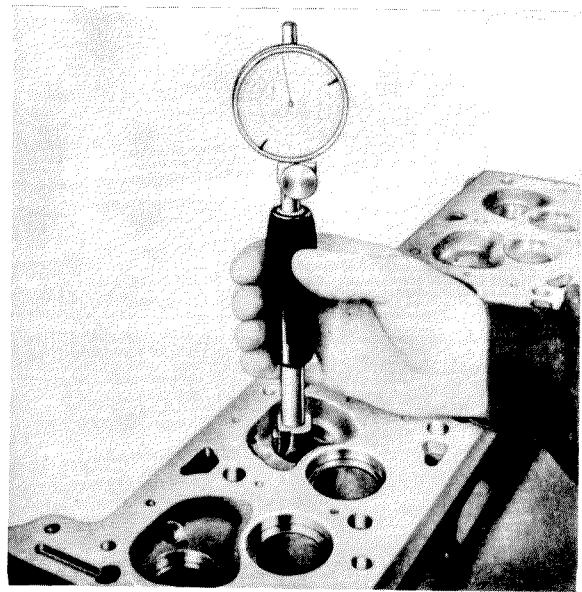

Fig. 01 — 5/11
6. Set up the holding stand (4) so that its bearing end is centrally located. Between the holding stand bearing (12) and the handle there must be a distance of at least 10 mm.
7. Now hold the feed control (11) steady and turn the handle. As soon as the stop screw (10) reaches its stop, release the feed control and give the handle one or two further turns.
8. Release the lower nut of the rapid adjustment (5) and, by turning the upper nut, once more move the cutter inward. Lock the rapid adjustment once more by tightening the lower nut.
9. Release the locking screw (3) and back out the knurled nut (1) about 5 graduations; this causes the cutter to be moved about 0.5 mm downward and thus a new cut can be made. This procedure should be repeated until the knurled nut (1) lies against the stop nose (13).
11. Clean the valve seat ring recess and measure the diameter with Internal Micrometer 000 589 10 21 (Fig. 01 — 5/11).